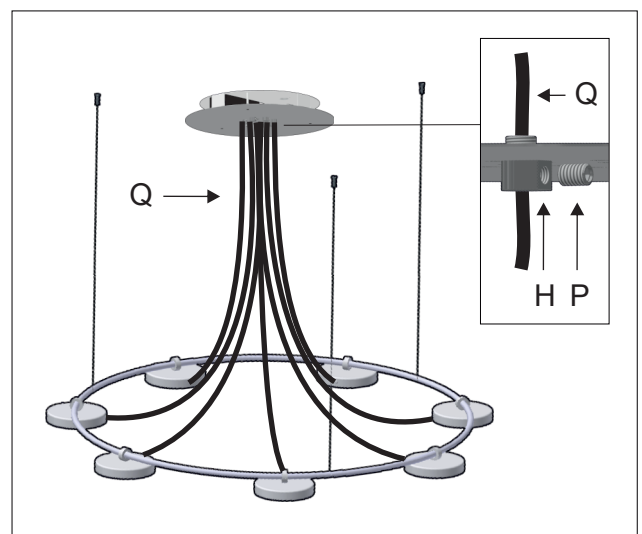

Figure 5
5 - Unscrew the allen screw (P) of the strain relief (H) and insert the electrical wires (Q) that come from each lampshade through. Once the cables have the desired length, screw the allen screws again and cut the excess wire. Figure 5